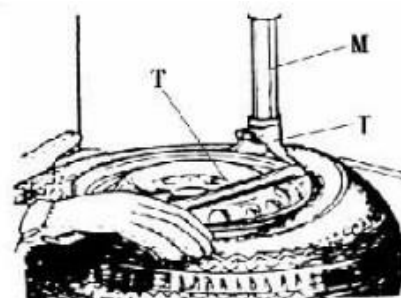

Fig 6
Lower the Vertical Arm (M) until the Mounting/demounting head (I) rests next to the edge of the rim, flip the Locking Handle to lock the Vertical Arm and Swing Arm in position, and also adjust the Rocker Arm make Mounting/demounting head can raise 2mm-3mm automatically from the edge of the wheel rim. Insert the Lifting Lever (T) between the tyre bead and the front section of the mounting/demounting head (I), and move the tyre above the mounting/demounting head as shown as Fig 6.